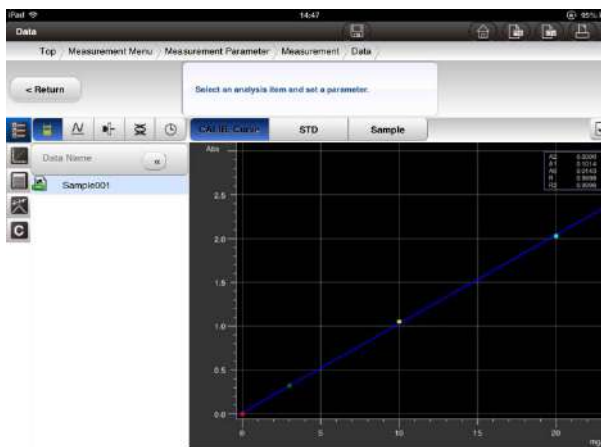

Fig. 4-102 Data Confirmation Window
- (1) Press  [Data button] and move to the data confirmation window (Fig. 4-102).